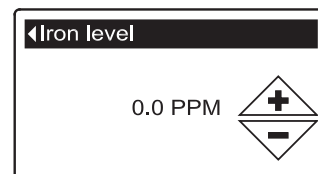

FIG. 103
5. Press the SELECT (O) button to display the Iron level screen (See Figure 103).